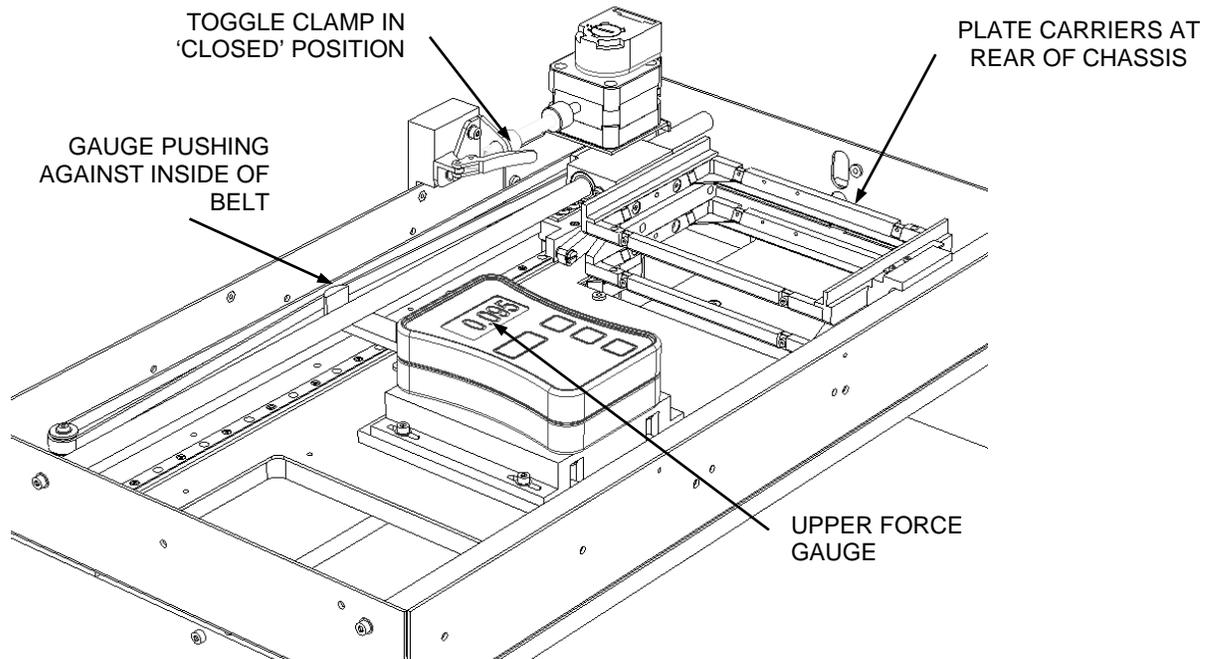

Figure 12-33: Adjusting Belt Clamp
7. Fit the gauge to the Reader Chassis by locating the dowels underneath the Gauge into the corresponding holes in the Belt Tensioning Fixture. Ensure the Gauge is pushing against the inside of the belt (Figure 12-33).